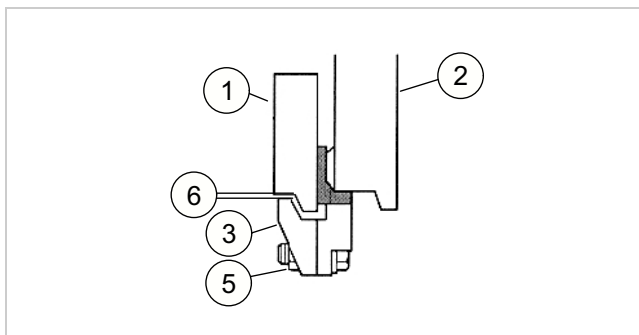

Fig. 7 (16965-02)
4. See Figure 7. Install and adjust the lower hooks (3). Torque the nuts (5) to 165 N m (122 ft lb).